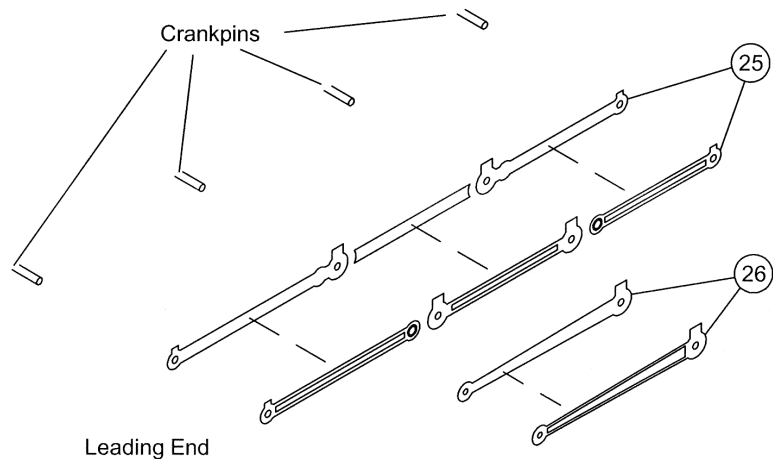

Fig. 2.
Refer back to figure 2. [Fit the backhead (68) and reversing lever (69) before fitting the roof] Curve the cab roof (19) and tack in position. When satisfied that it is positioned centrally solder around the seams. Fit the front and rear strips (20), the two rainstrips (22) and the cab roof shutter (21).